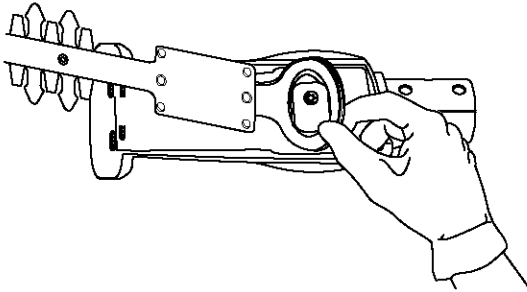

Fig. 12
- Squeeze the yokes and remove the blade from the housing (Fig. 12).
- Place new blade into the housing and squeeze the yoke to drop it into place (see Fig. 12).